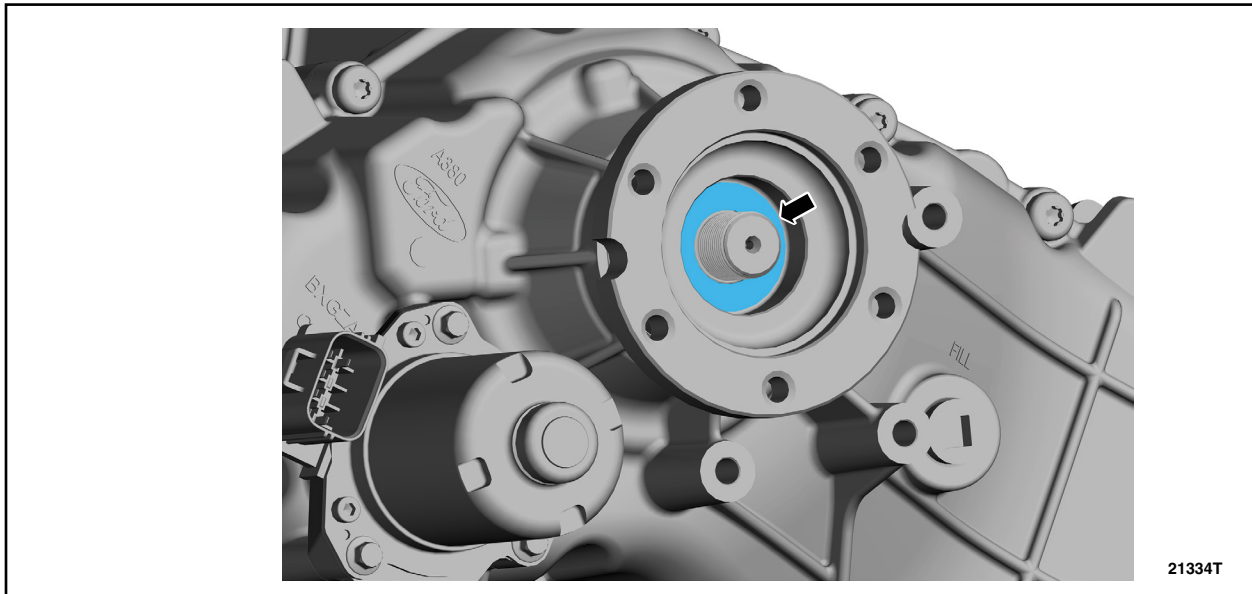

FIGURE 19
30. Install the output flange spacer. See Figure 19.